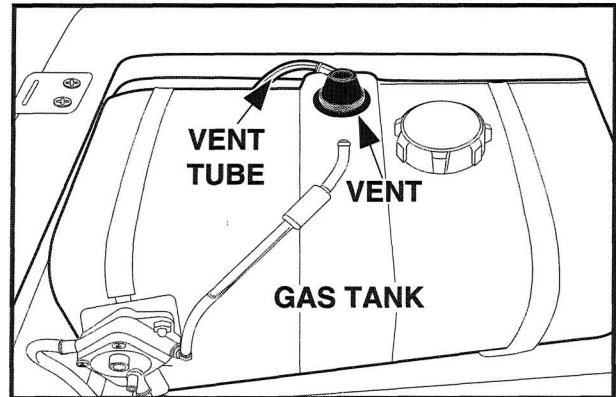

Figure 25
- **IF THE VEHICLE HAS A CUSTOM CAB ASSEMBLY OR AN ALL WEATHER ENCLOSURE INSTALLED, THE GAS TANK MUST BE PROPERLY VENTED AS SHOWN IN FIGURE 25.**